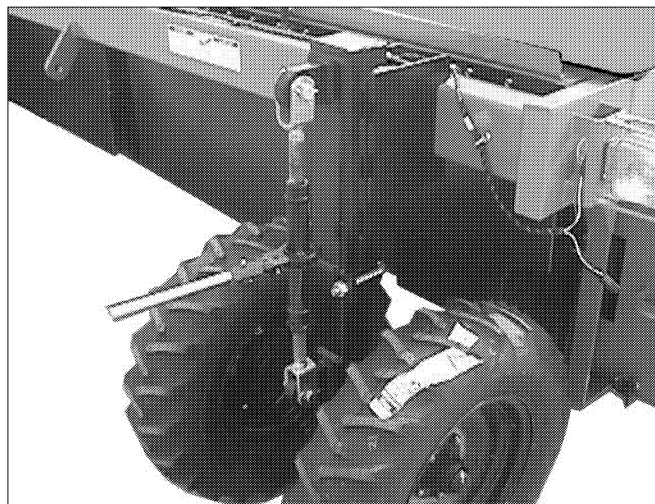

Figure 7 Rear Wheels
2. Turn the adjustment crank on the rear wheels (Figure 7) to level the machine from side to side. Loosen the "U" bolt on the wheel strut, turn the crank and re-tighten the bolt.